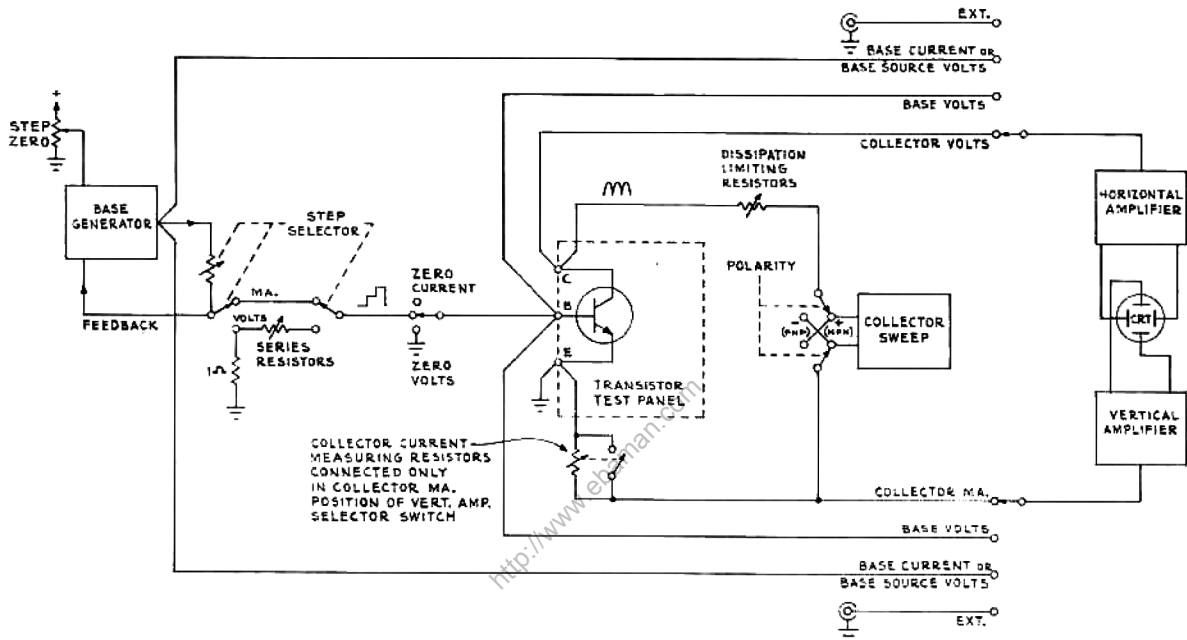

Fig. 1. Type 575 Functional Block Diagram.
NOTE: Mount the solder lug between the screw head and the thermal cutout (see Fig 1, step 5).
- () 6. Mount the silicon rectifier assembly (from kit), as shown in Fig 1. Use the 6-32 x 5/16 PHS screws and #6 flat washers (from kit), placing a flat washer under each screw head. (Insert screws from bottom of chassis.)
We will first direct our attention to the Base Step Generator shown to the left on Figure 1.
The Collector Sweep source of half-sine voltage is shown at the right of Figure 1. The peak collector sweep voltage is variable in amplitude (PEAK VOLTS) from zero to 20 volts rated at 10 amps, or from zero to 200 volts
The third terminal of the transistor test fixture marked "E" is ground. The transistor test board, which is not entirely shown in Figure 1, has a switch for transferring all connection from the left-hand terminals and socket to the right-hand terminals and socket with a neutral Off position. Another switch is provided to switch the sockets only from grounded base to grounded emitter.
This completes the generator functions of the Type 575, and we will now discuss the display portion of Figure 1.
It will be noted in Figure 1 that the Vertical display switch and vertical amplifier function in the same way as the horizontal circuits just discussed, when the (1) BASE CURRENT OR BASE SOURCE VOLTS, (2) BASE VOLTS, and (3) EXTERNAL positions are selected.
Some precautions which may be exercised in making measurements on a transistor of unknown limitations are: (1) Leave the TRANSISTOR A - TRANSISTOR B switch in the neutral (off) position when the initial signal amplitudes are selected and when the transistor is inserted, (2) In the initial selection of signals, start with small values of base steps and collector voltages with maximum sensitivity of the Horizontal and Vertical Display switches, (3) Use a minimum number of Base STEPS/FAMILY (four or five), (4) Insert a collector DISSIPATION LIMITING RESISTOR to limit the collector current to a safe value. The collector current measuring resistances are in series with the collector only when the Vertical Display switch is in the COLLECTOR MA position as shown in Figure 1. In order to preclude excessive collector current and possible damage to the transistor, it is important to select an adequate value of DISSIPATION LIMITING RESISTOR prior to switching the Vertical display switch from the COLLECTOR MA positions to any other position where collector current is not displayed. A chart, permanently attached to the top of the Type 575, provides a handy reference for choosing the DISSIPATION LIMITING RESISTOR for given values of collector-peak voltage and collector peak-power dissipation.